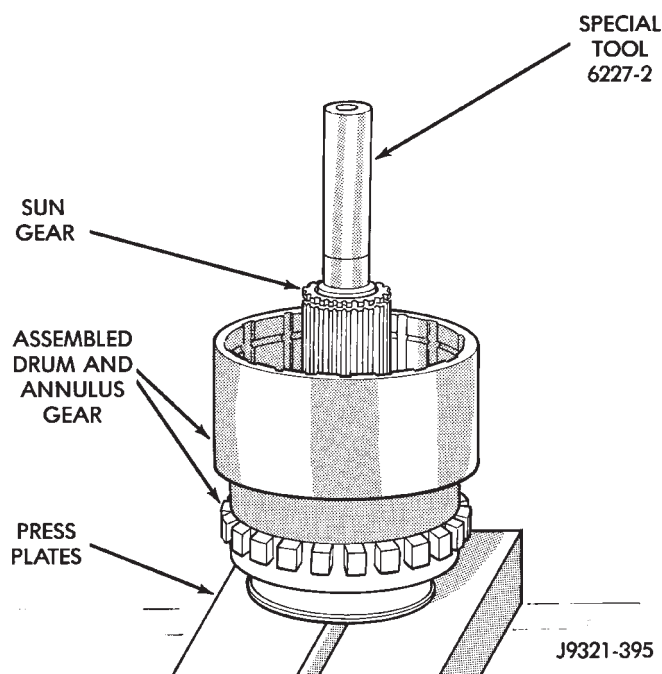

Fig. 220 Alignment Tool Installation
(15) Mount assembled output shaft, annulus gear, and clutch drum in shop press. Direct clutch spring, hub and clutch pack are easier to install with assembly mounted in press.
(16) Align splines in hubs of planetary gear and overrunning clutch with Alignment tool 6227-2 (Fig. 220). Insert tool through sun gear and into splines of both hubs. Be sure alignment tool is fully seated before proceeding.